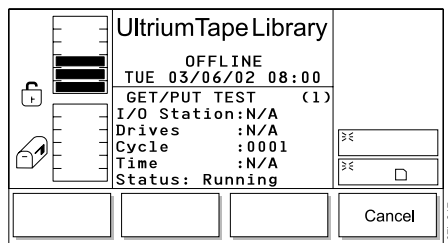

Figure 278. Get/Put Execution screen
8. Press the button below the **OK** softkey. The Get/Put Execution screen displays with a Status field that indicates the diagnostic is Running (see Figure 278). When the test completes, the screen refreshes and the Status field displays Completed.